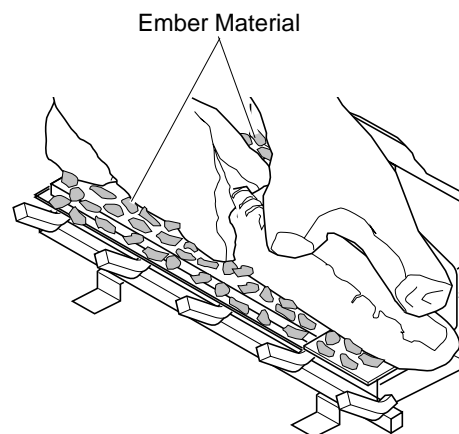

Figure 56 - Placing Ember Material on Burner
5. Pull ember material apart into pieces no larger than a dime. Place these pieces loosely onto the exposed section of the front burner and space between logs 2 and 3 where front burner is exposed (see Figure 56). This will create the glowing appearance as the flame touches the ember material. Do not block ports by using too much ember material in one area. It is not necessary to use all of the ember material provided.